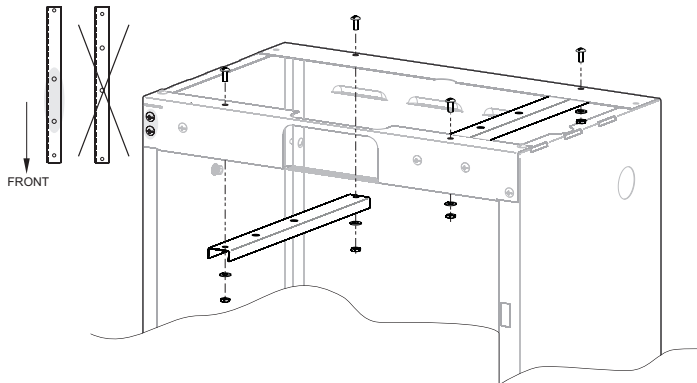

Figure 7
10. Place Stiffener Brackets under the ledges of the Stabilizing Bracket and Rear Panel. Ensure the holes line up and Secure with four 1/4-20 x 3/4 screws, four lock washers and four nuts each. See Figure 7.